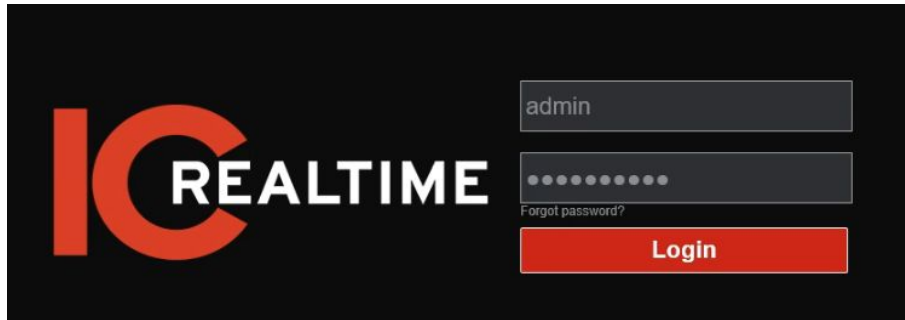

Figure 4-1
Step 1 Login to the ANPR Camera via web browser and initialize the camera if you have not done so yet. (The camera is set to DHCP by default. If the camera is not plugged into a network with a DHCP pool, the IP will be 192.168.1.108)See Figure 4-1.